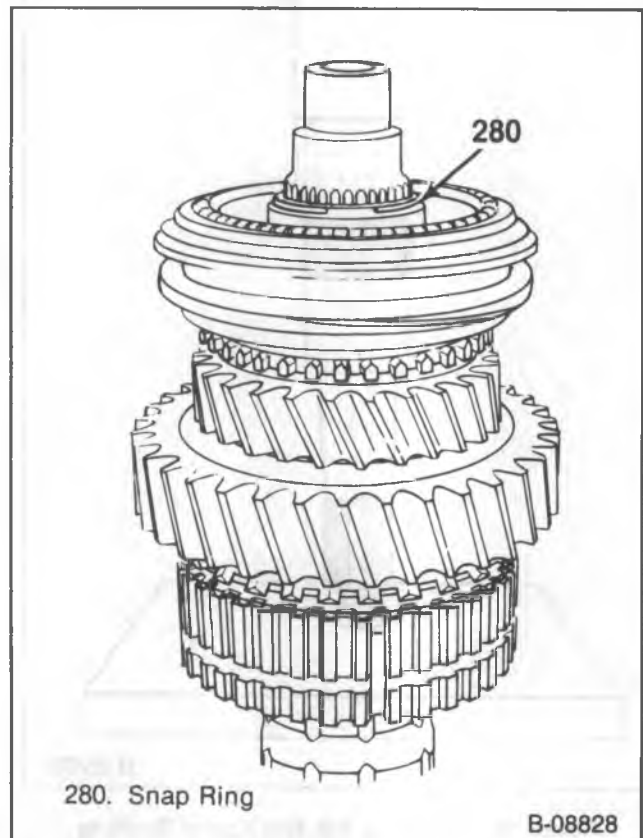

Figure 21 –3rd and 4th Synchronizer Hub Snap Ring
10. New snap ring, (figure 21).
11. Reverse gear (211).
12. 1st speed gear (216).
13. Thrust washer (217).